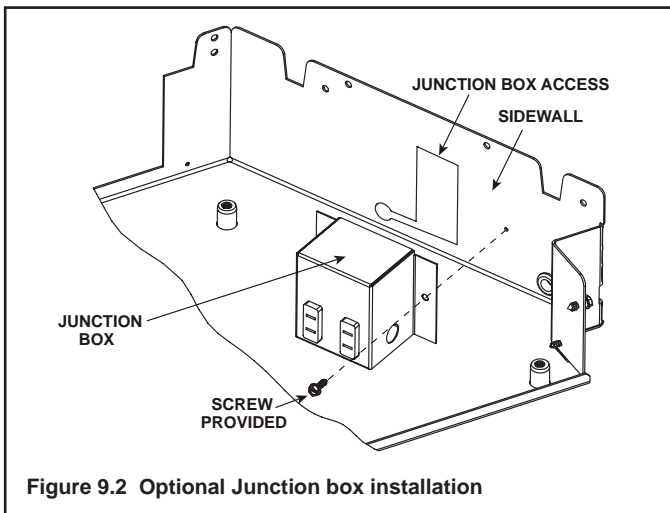

Figure 9.2 Optional Junction box installation
- It is recommended that a 110 VAC junction box be connected for use with fan or remote control. (See Figure 9.2 for junction box wiring).